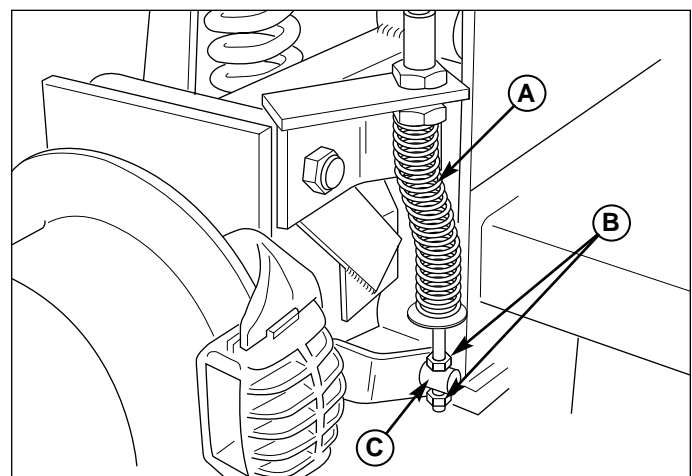

Figure 23. Parking Brake Adjustment
6. Locate the lower brake spring, adjustment nuts and adjustment link (A, B & C, Figure 23).
7. Release the parking brake and turn the adjustment nuts to compress or release the upper spring. Lock the nuts against the adjustment link (C, Figure 23).